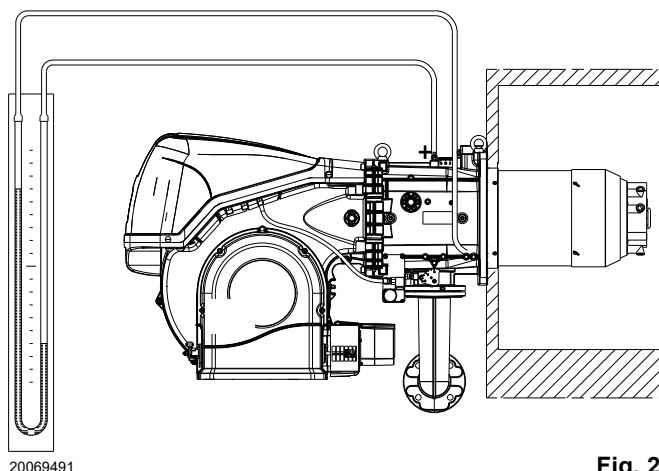

Fig. 27
- Fit a U-type pressure gauge or a differential pressure gauge (Fig. 27), with socket (+) on the gas pressure of the pipe coupling and (-) in the combustion chamber.
The arrival of gas at the pipe coupling is indicated by the U-type pressure gauge (Fig. 27 on page 30).
As an indicative guide it can be taken from Tab. N on page 27, just read the gas pressure on the pressure gauge (shown in Fig. 27 on page 30) and follow the instructions given on page 27.